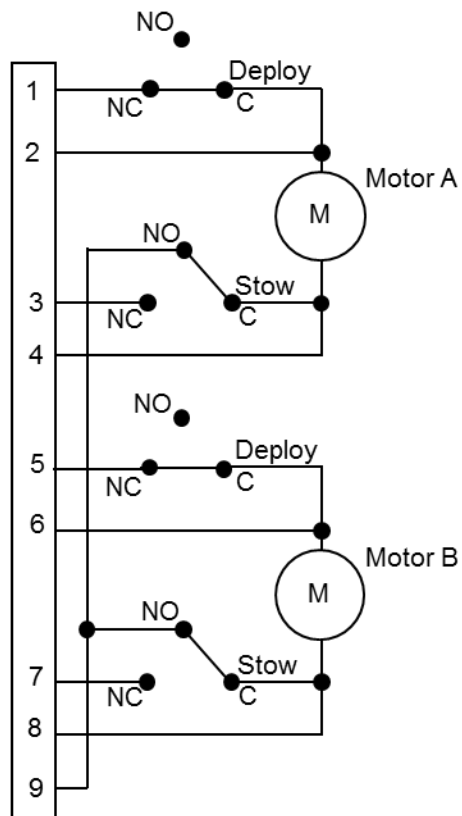

Figure 22: Switch state after Lightband has been stowed
7.2.14	<p>Figure 22 shows the state of the switches in the Motor Bracket Assembly after the Lightband has been stowed. Measure resistance directly at the Lightband's DB-9 socket connector by completing Table 4. See Figure 44. Contact PSC if a discrepancy is found.</p>